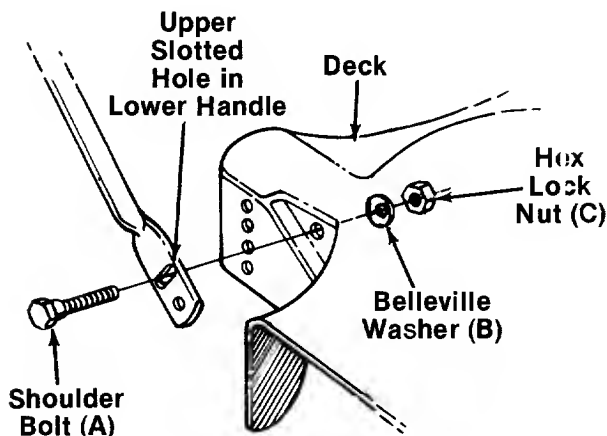

FIGURE 2.
1. Line up the upper slotted hole in lower handle with the mounting hole on deck. Make certain the instruction label on the lower handle can be read from the operating position. Place shoulder bolt (A) through lower handle and deck. See figure 2. Place belleville washer (B) on the shoulder bolt, with the cupped side of the washer against the deck. Secure with hex lock nut (C).